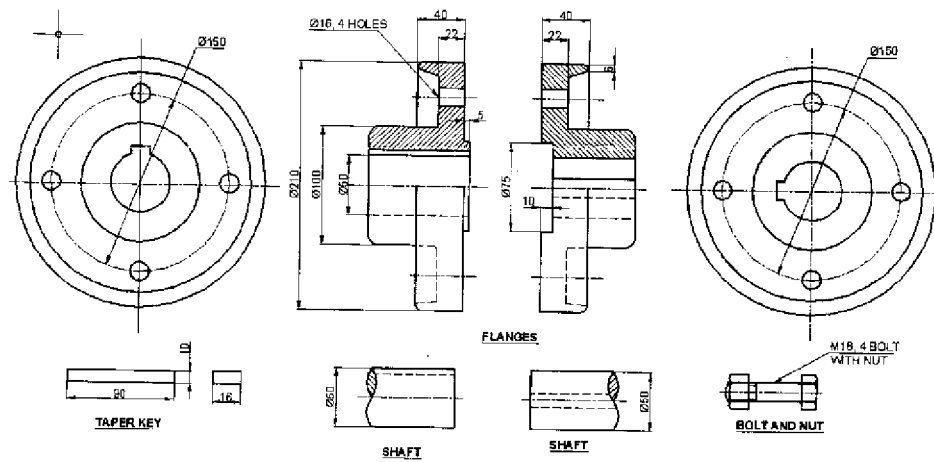

Fig. 2 : Flange coupling parts
6. Assemble the parts of flanged coupling shown in Fig. 2 and draw the following views : 25+15